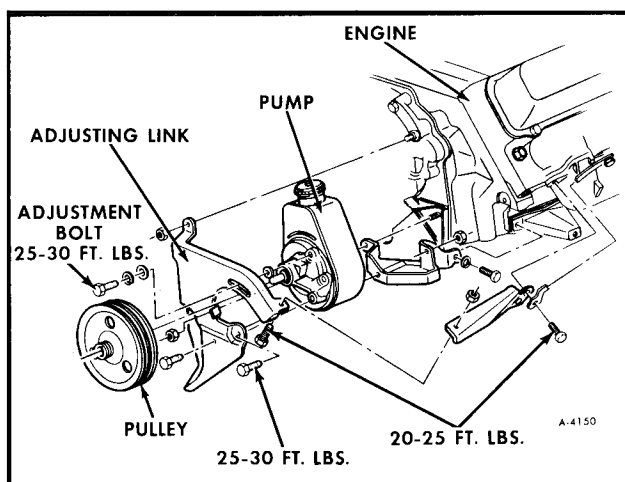

Figure 7—Pump Installation
## REMOVAL OF PUMP (FIGURE 7)
3. Remove power steering pump mounting bolts and nuts, and upper left venturi bracket. (See figure 7).
## INSTALLATION OF PUMP (FIGURE 7)